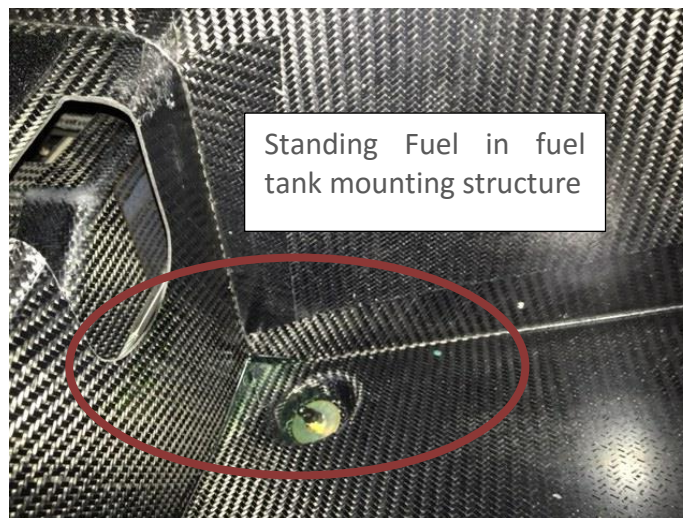

Figure 1: Standing fuel in fuel tank mounting structure.
8. \_\_\_ Inspect the fuel tank mounting structure for standing fuel and or fuel residue. Clean fuel tank mounting structure thoroughly with isopropyl alcohol. If standing fuel is present (as shown in figure 1) inspect the bottom of the hull under the fuel tank mounting structure back to the bilge pump area for fuel and thoroughly clean the hull of fuel and fuel residue.